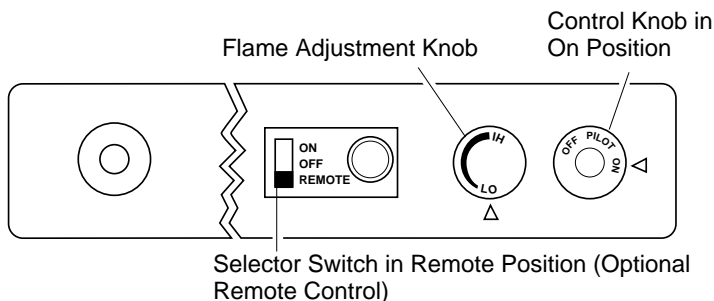

Figure 22 - Setting the Selector Switch, Control Knob, and Flame Adjustment Knob for Remote Operation
- After lighting, let pilot flame burn for about one minute. Turn control knob to ON position. Adjust flame adjustment knob anywhere between HI and LO. Slide the selector switch to the REMOTE position (see Figure 22). **Note:** The burner may light if hand-held remote ON button was on when selector switch was last turned off. You can now turn the burner on and off with the hand-held remote control unit.
2b. Press the AUTO/ON/OFF button on the hand-held remote control (see Figure 22, page 17). The lights to the left of the button will show AUTO, ON, or OFF.